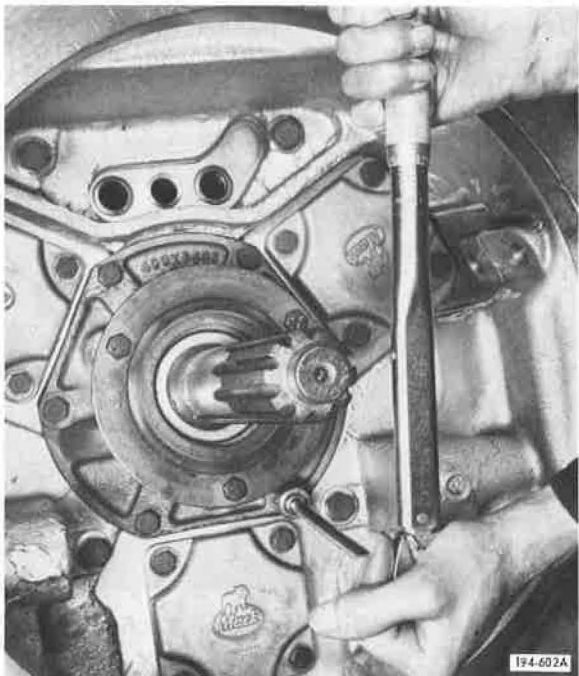

Figure 378. Torquing Capscrews
14. Install front compound main drive pinion bearing cover capscrews and tighten to 36 to 44 lb. ft. torque. Refer to Torque and Tolerance Table, Item 8. See Figure 378.